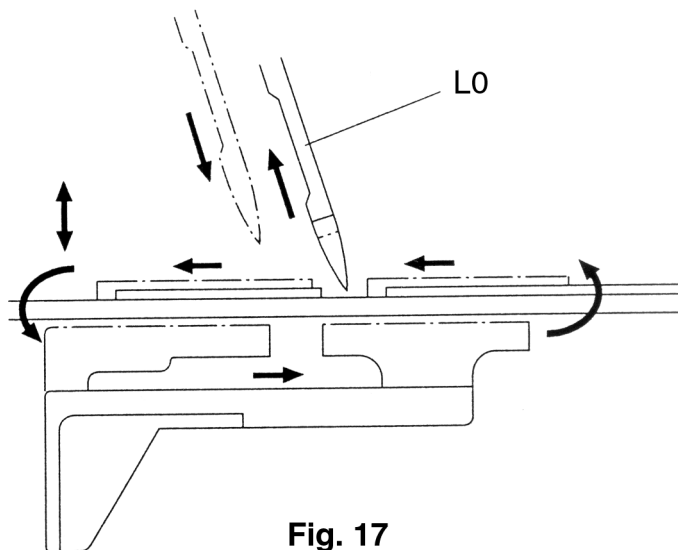

Fig. 17
- Turn the handwheel in the normal direction until the needle point slightly penetrates the paper (fig. 17).